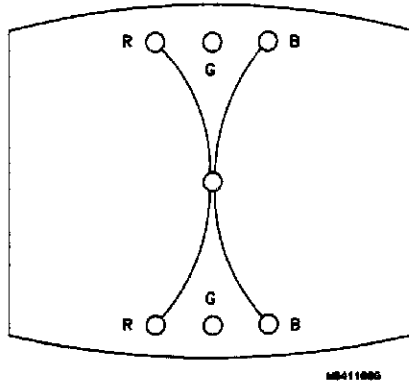

Figure 4-19. Y BOW Adjustment.
2. Adjust Y BOW (RV805) on bottom PC board to eliminate red, green, and blue bowing at top and bottom of center vertical line See figure 4-19.